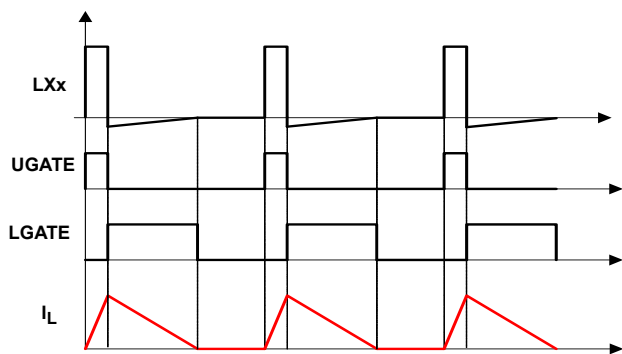

FIGURE 54. DIODE EMULATION
Diode Emulation (DE) allows for higher converter efficiency under light-load situations. In DE mode, the low-side MOSFET conducts when the current is flowing from source-to-drain and does not allow reverse current, emulating a diode. As shown in Figure 54, when the LGATE signal is HIGH, the low-side MOSFET carries current, creating negative voltage on the phase node due to the voltage drop across the ON-resistance. When the DE pin is pulled HIGH, the ISL70003ASEH is in DE mode and detect the zero current crossing of the inductor current, and turn off the lower MOSFET to prevent the inductor current from reversing direction and creating unnecessary power loss. This ensures that Discontinuous Conduction Mode (DCM) is achieved. Because diode emulation prevents the low-side MOSFET from sinking current, no negative spike at the output is generated during prebiased startup when DE mode is active.